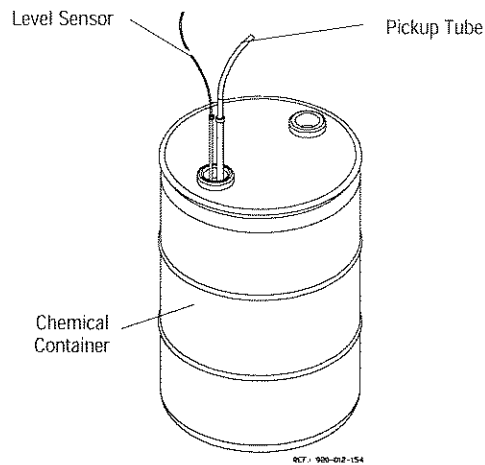

Figure 6-2. Chemical Container
- Place low-level sensor and pickup tube assembly upright in new container (see Figure 6-2).